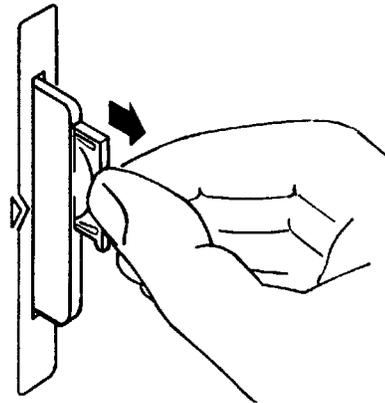

Figure 32 Replacing the Memory Card's Battery
2. Hold the memory card in the slot with one hand and pull the battery holder out with your other hand. (See figure 32 .)